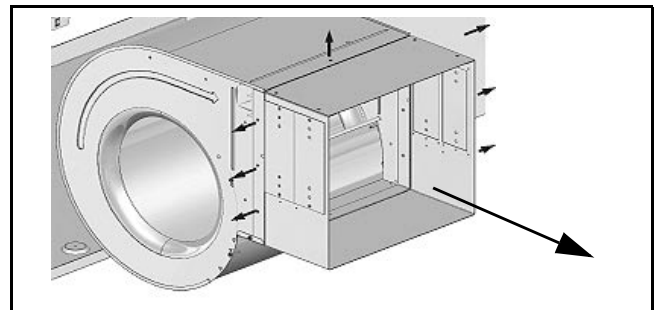

Fig. 33
10. Remove the blower collar by removing its eight screws and discard the collar. (See Fig. 33.)